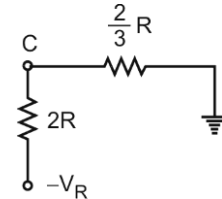

Fig. 4.3.8
- The circuit can be simplified to the equivalent form of Fig. 4.3.5. and finally to Fig. 4.3.8.
In Fig. 4.3.8,